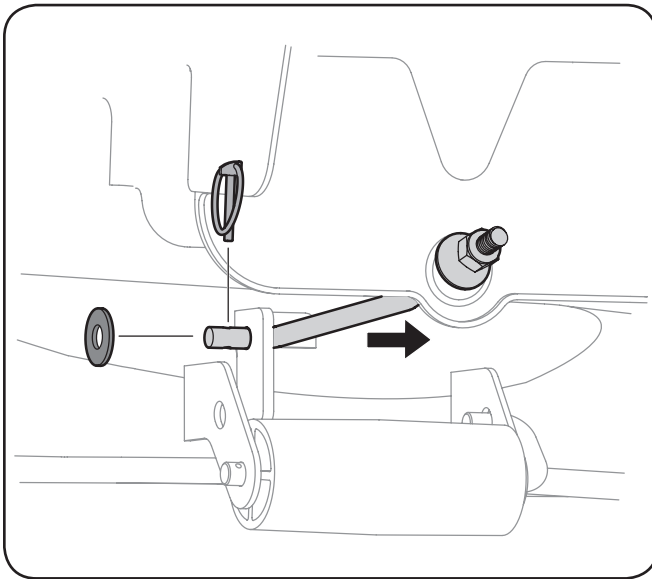

Figure 7-4
9. Remove the cotter pin and flat washer from the end of the stabilizer rod and slide the stabilizer rod out of the hanger bracket on the deck, as shown in Figure 7-4.